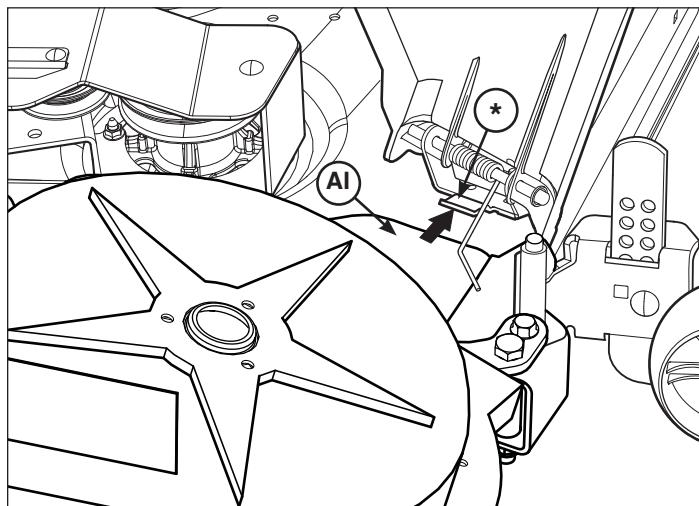

Figure 19
6. Rotate turbo assembly (**AI**, Figure 19) and insert corner underneath deflector bracket (*) as shown.